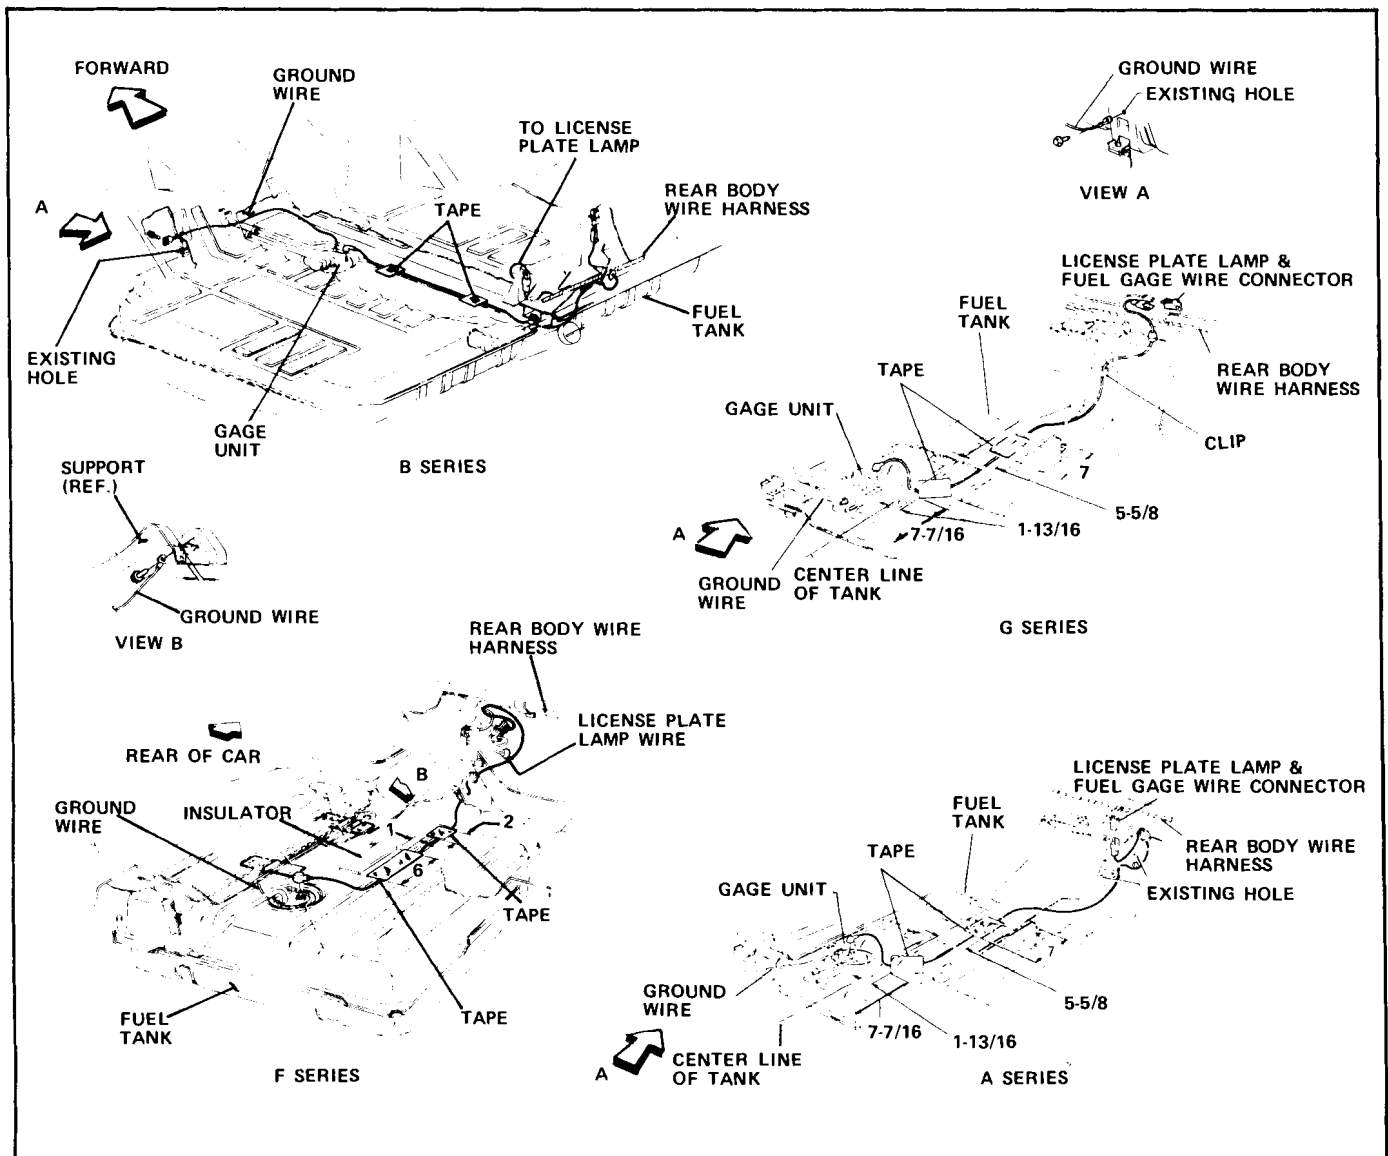

Fig. 8-29 Fuel Tank Gage Unit Wiring (Except Station Wagon & X Series)
4. Remove screw retaining ground wire (Figs. 8-29 and 8-30).